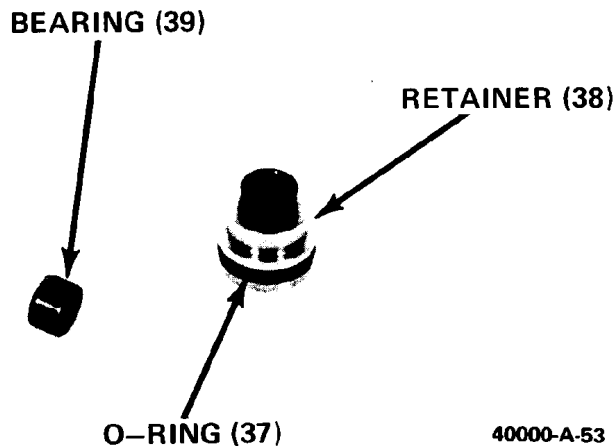

Figure 4-9. Bearing to Retainer Assembly
20. Insert shaft (41), with key (40) in place on the shaft, into the housing. Keyed shaft fits into lever (67).
21. Assemble spring (52), spring seat (53), and steel ball (54). Place them and cover assembly (50) on the diaphragm. Secure the cover with screws (48) and washers (49).
22. Replace set screw (51) if previously removed. Reset to the same height above the cover.
23. Use tool T93668 to seat bearing (39) into retainer (38) until the tool shoulder contacts the retainer shoulder. Seat the bearing with the numbers to the outside. See Figure 4-9.